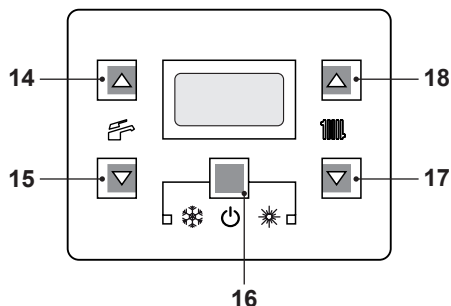
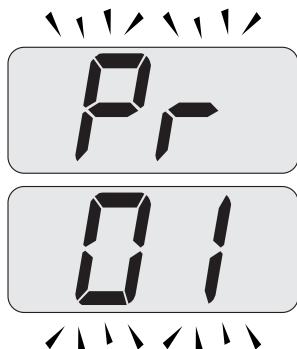
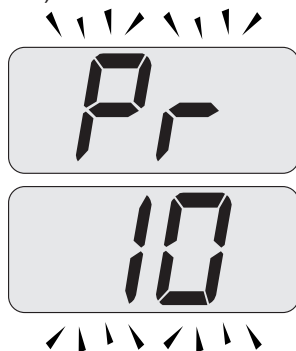

Fig. 8.22
Fig. 8.23
Fig. 8.24
- Enter the "programming mode" by sequentially pressing keys 16 - 17 - 18 (Fig. 8.22) for 10 seconds at the same time until the letters **Pr** that alternate with code **01** are displayed on the LCD display, indicating that "parameter 01" (Fig. 8.23) has been activated.
display, indicating that "parameter 10" (Fig. 8.24) has been activated.
- Press keys 16 and 18 (Fig. 8.22) at the same time until the value of parameter 10 (30=180 seconds) is displayed on the LCD display (Fig. 8.25).
- By pressing key 16 (Fig. 8.22) confirmation of the inserted value is obtained.
- Press keys 16 and 17 (Fig. 8.22) at the same time to exit without changing the value (return to the parameters list Fig. 8.24).
- Press sequentially keys, 16 - 17 and then 18 (Fig. 8.22) and hold in for 10 seconds to exit the "programming mode".